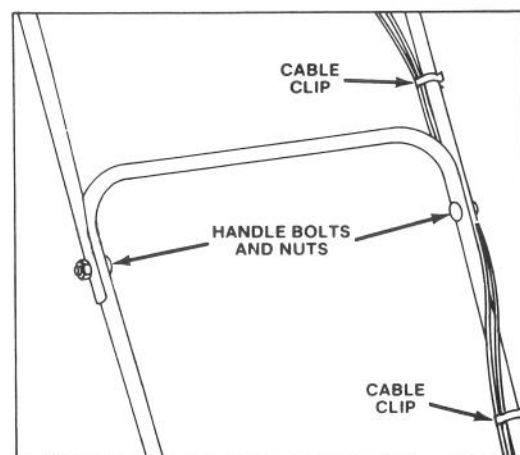

Figure 2
2. UPPER HANDLE (Fig. 2) — Secure upper and lower handles in place with handle bolts and nuts. Secure control cables in position with cable clips.